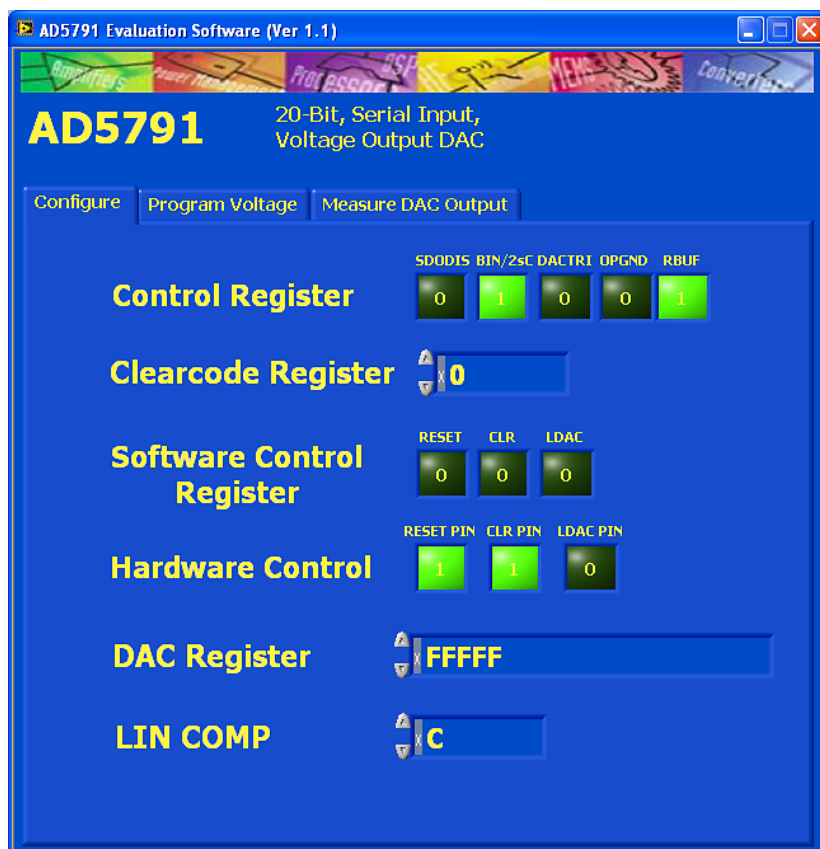

Figure 8. Main Window
1. From the **Start** menu, select **Analog Devices – AD5791 > AD5791 Evaluation Software**. The main window of the software displays (see Figure 8).
The **Configure** tab allows access to the control register, clear code register, software control register, and DAC register, and also allows control of the **RESET**, **CLR**, and **LDAC** pins, as shown in Figure 8.